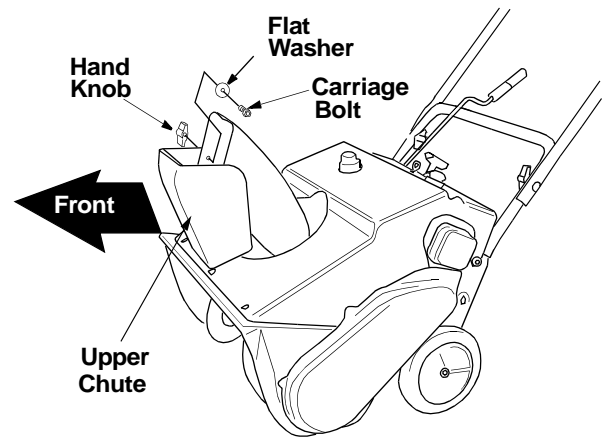

Figure 7
- Turn the chute crank until the chute faces straight to the front. See Figure 7.
- Remove the hand knob, flat washer and carriage bolt from the upper chute. See Figure 7.